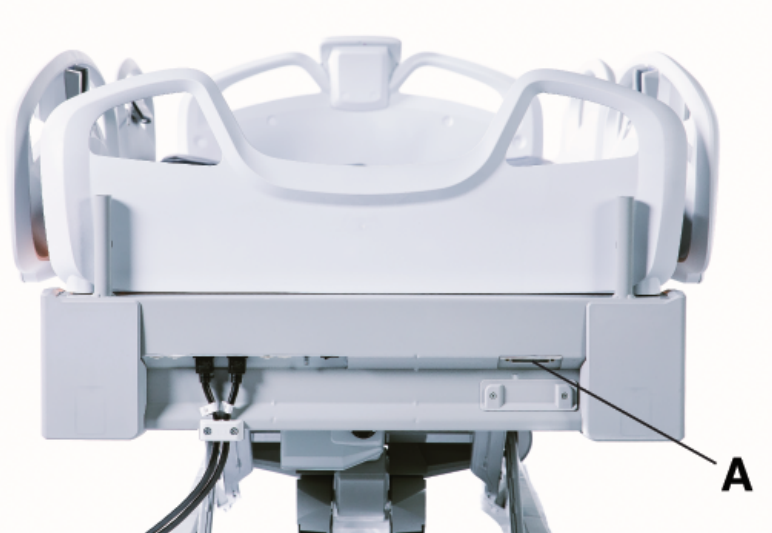

Figure 4 – 37-pin connector
1. Plug the interface cable into the 37-pin connector on the litter frame at the head end of the product (A) (Figure 4).